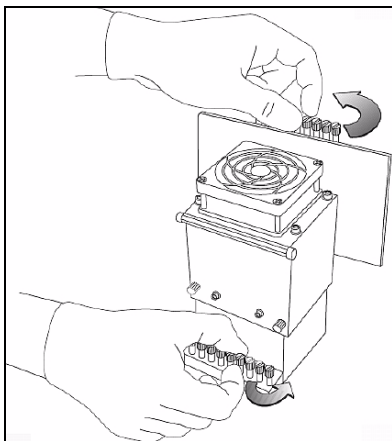

Figure 6-65: Releasing the locking screws
19. Tighten the upper and lower screws that secure the print head in the print block (see figure 6-65 on page 46).